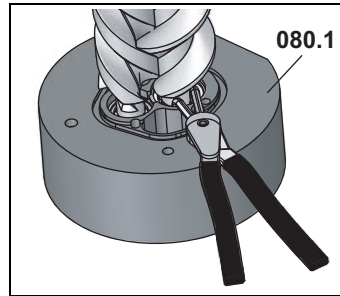

Fig. 23
3. Loosen the circlips **870.1** and **870.3** from recesses in the bearing cover, see Fig. 23, page 36, screw out the socket screw **915.6**.